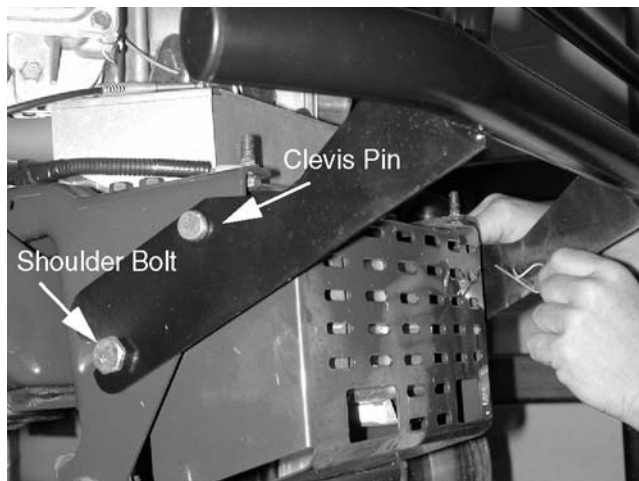

Figure 11-56
4. Support the bumper with one hand, and remove the clevis pins with the other. See Figure 11-56.